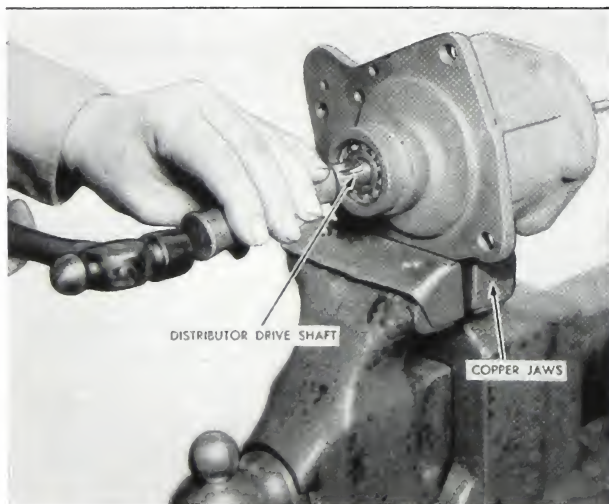

Fig. 5-21. Distributor drive shaft
8. Tap the lower end of the distributor shaft on a block of wood or drive out with a hammer and copper punch. Remove the shaft and collar from the housing. Fig. 5-21.